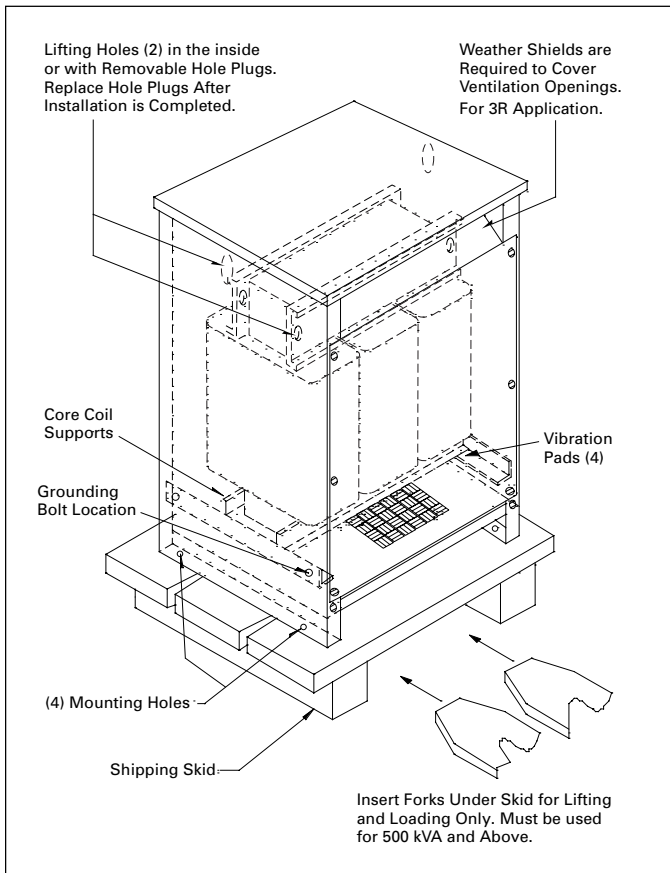

Figure 1 Typical Ventilated Transformer.
- For further information see Figure 1 on Page 3.